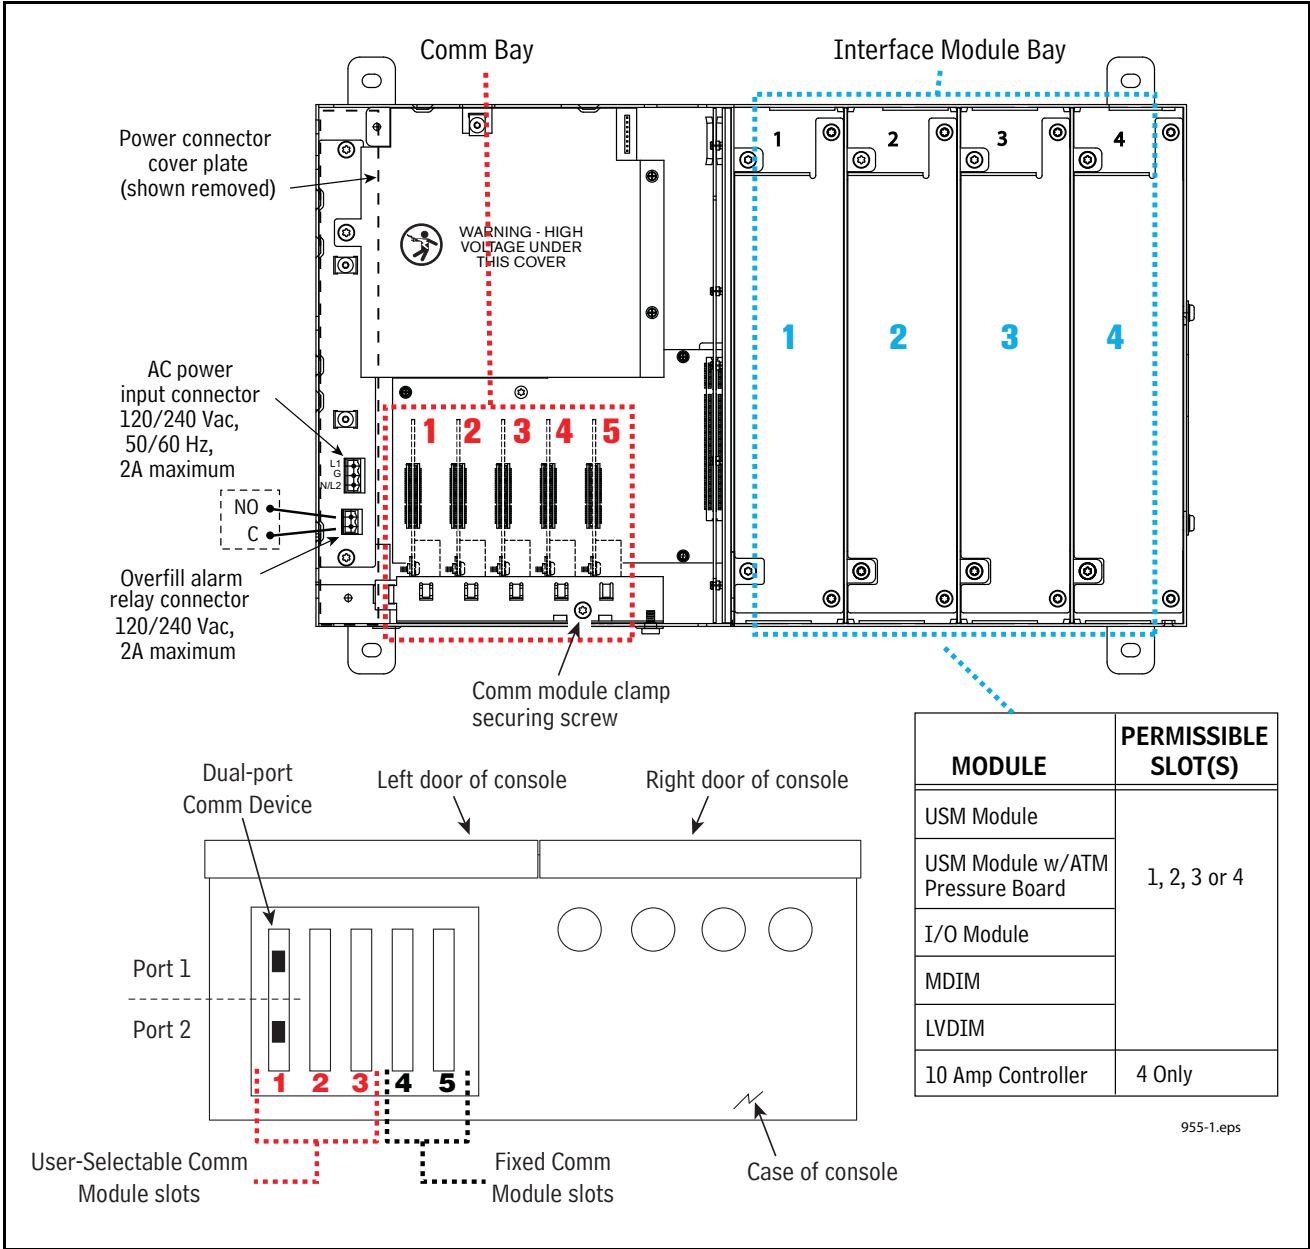

Figure 3. TLS-450PLUS Console Plug-In Module Bays
Figure 3 illustrates the maximum number of modules allowed in each of the two bays of the console.
- Each Interface Module slot is numbered from 1 to 4 from left to right as shown in Figure 3.
The TLS-450PLUS doesn't have pre-assigned slots for the Interface Modules so any of the four slots can accommodate intrinsically safe (USM) or non-intrinsically safe (I/O, MDIM, etc.) Interface Modules (see Figure 3). Since the Interface Modules can be installed in any of these 4 slots, install them where it makes the most sense for conduit connections.
2. Install the Interface Module into a blank slot. Figure 3 illustrates acceptable non-intrinsically safe module positions in the Interface Module Bay of the console.
2. The Comm Bay is divided into 5 communication slots numbered from 1 to 5 going left to right (see Figure 3). Only slots 1-3 are available for user-selectable Comm modules (ref. Table 3). The Comm modules in Slots 4 and 5 are fixed and cannot be moved.
3. Using a T-15 Torx driver, loosen the module clamp securing screw and remove the clamp (see Figure 3).